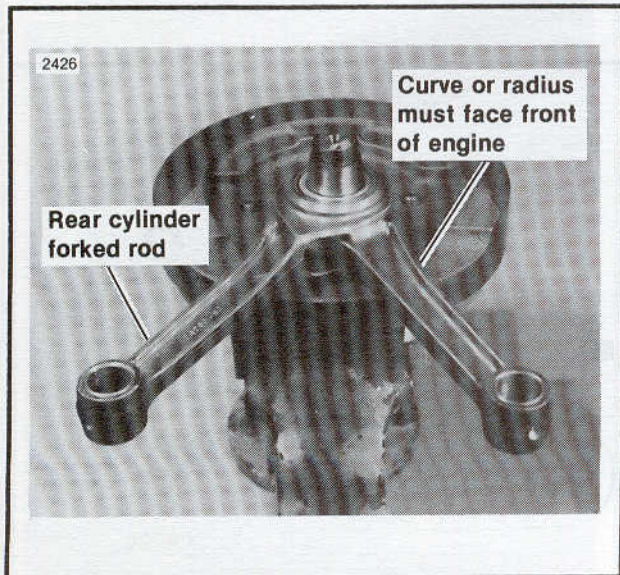

Figure 3-63. Connecting Rod Location
5. See Figure 3-63. Install the rods and bearings on the crankpin using a thin film of petroleum jelly to retain the rollers. Never use a stiff, high temperature grease on the roller bearings.